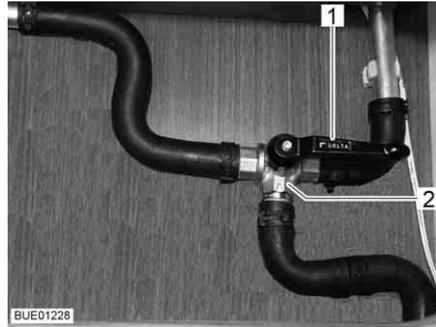

Fig. 136 3-way valve
- Set the lever (Fig. 136,1) of the 3-way valve (Fig. 136,2) parallel to the straight flow direction (Fig. 136).
- Set the lever (Fig. 136,1) of the 3-way valve (Fig. 136,2) transverse to the straight flow direction.